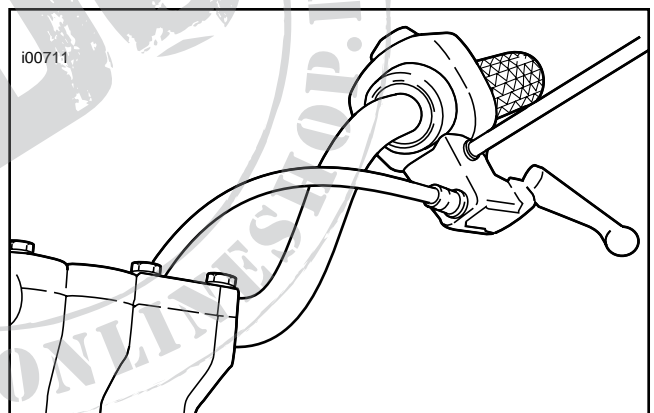

Figure 2. New Clutch Cable Routing
10. See Figure 2. Relocate clutch cable to the inside of the handlebars as shown in illustration as follows:
- Reroute clutch cable to the inside of the handlebars as shown in Figure 2 and reconnect clutch cable to clutch lever by reversing step c.